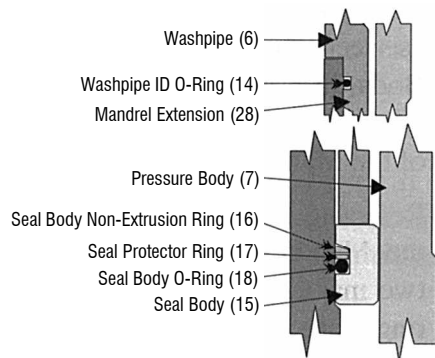

Figure 8-10: Washpipe O-Ring Installation
10. Washpipe (6): Install the Washpipe O-Ring (14) in the ID past the threads of the wide-end of the Washpipe (6) as shown in Figure 8-10 above.